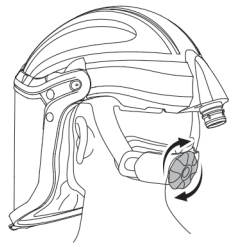

fig.1b
Step 2: Adjust the back headgear knob until the face shield is fixed on the head properly (See fig.1b).